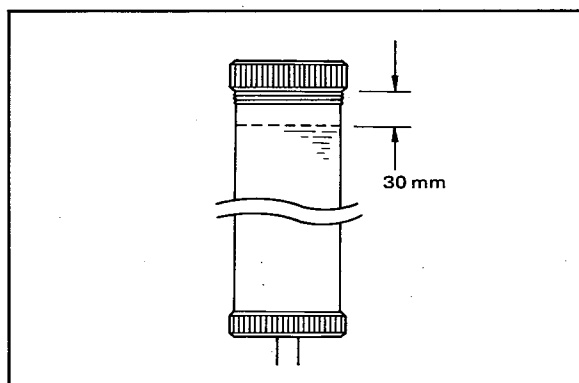

Figure 3-3. Maximum KCl Replenishment Level in the Reserve Tank.
- (3) Remove the nut fixing the reserve tank cap and remove the cap.
- (4) Refill the tank with 3.3 M KCl solution (see Figure 3-3). The maximum solution level 3 to 4 cm lower than the top.